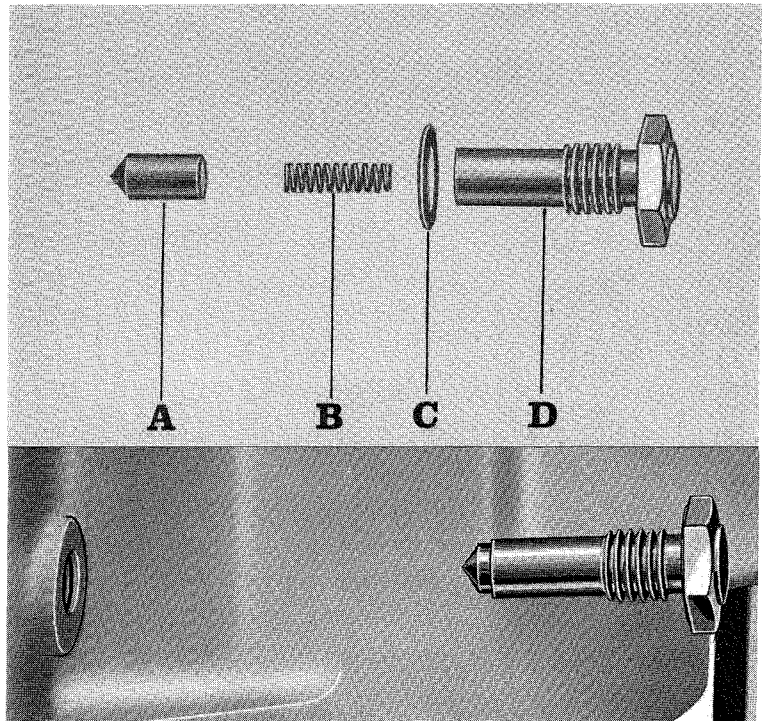

Fig. 29
29. Fit the shiftingdrum ratchetsleeve in position. See Fig. 29.